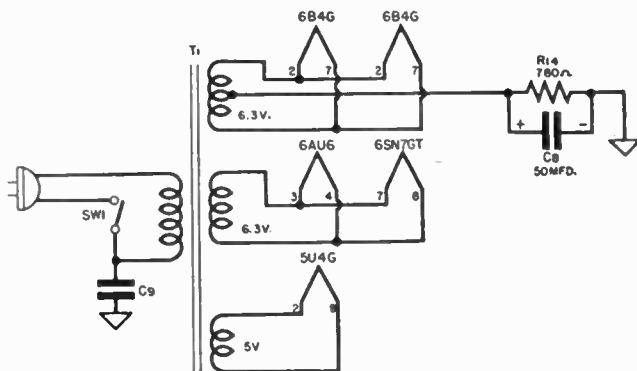

Fig. 5-4. The heater circuit.
a) *Heater Circuit.* See Figure 5-4.